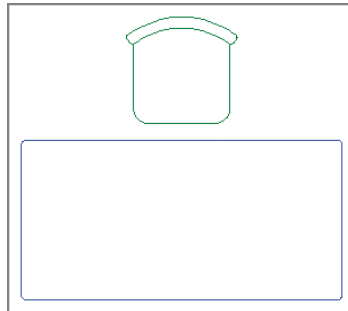

FIGURE 7.10 Chair block inserted 3" from the desk
- Hold Shift, right-click, and choose From in the context menu. Click the midpoint of the upper desk edge, type @0,3 (or @0,7 for metric), and press Enter. The Chair block reference appears 3" (or 7 cm) up from the center of the desk (see Figure 7.10).